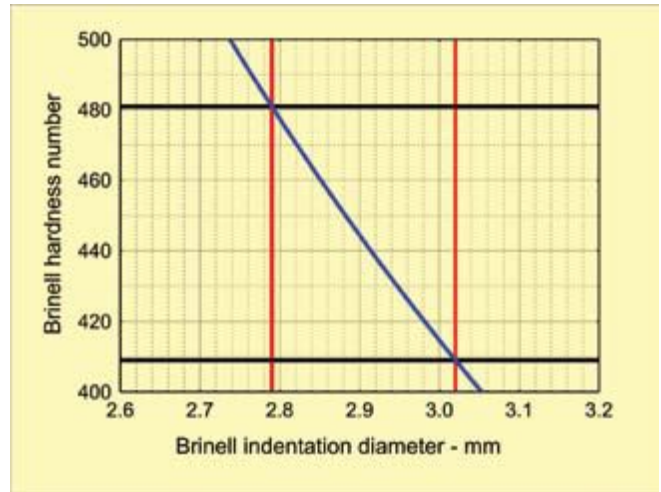

Fig.11. Variation of strip hardness affecting Brinell indentation diameter.
Fig.11 is a graphical solution of equation (10) for the maximum range of allowed equivalent hardness values (409-481 (when using 3000kgf applied to a 10mm diameter ball)). The curve is not quite linear. For a Brinell hardness of 409 (equivalent to 44HRC), the indent diameter is 3.02mm and for a Brinell hardness of 481 (equivalent to 50HRC), the indent diameter is 2.79mm. The difference in indent diameters is just over 8%. This is only relevant for the initial stages of shot peening. As peening progresses, we get multiple, overlapping indentations with corresponding work-hardening of the surface layer. The difference in hardness between the softer and harder Almen strips could then either decrease or increase!